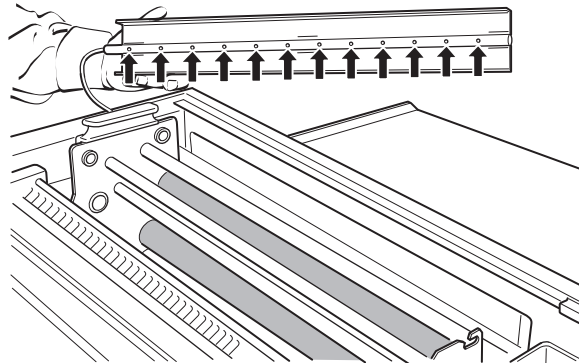

Figure 18
- Clean the sprayer cover with FIXCLEAN. Be sure that the sprayer holes are clear (fig. 18).